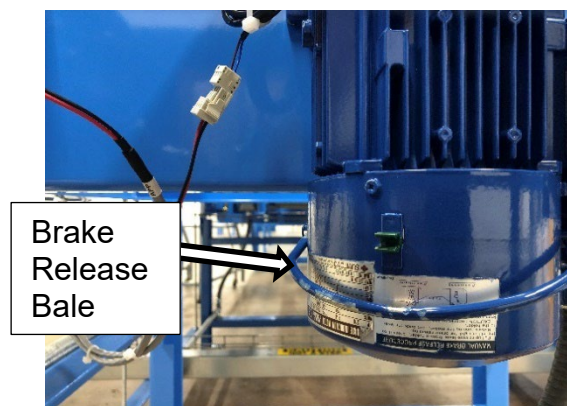

Figure 5. Brake Bale DOWN
- 2) Move bale to the DOWN position (Figure 5).